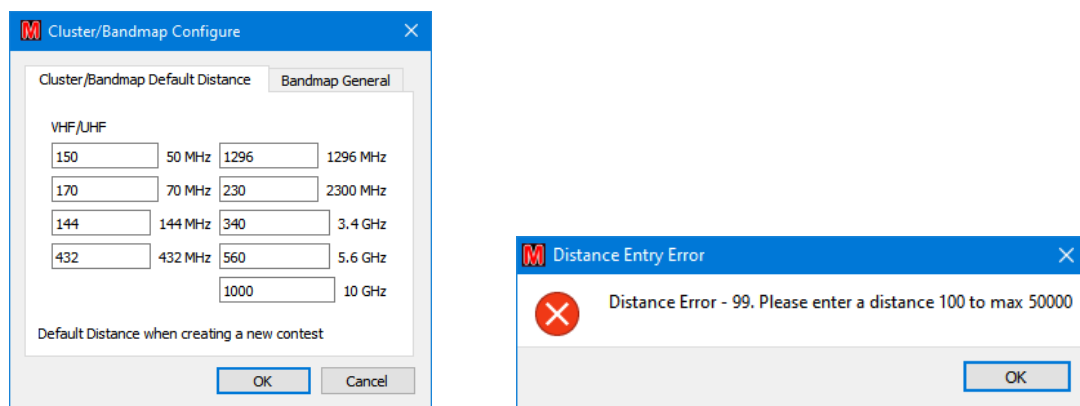

Figure 119 – Default distances for filters
The defaults for the maximum distance filter are established using “**Cluster/Bandmap Filter Configuration**” under the Tools menu as shown in Figure 119 (1)¹²⁶. The distance must be in the range 100 to 50000 (!) otherwise an error message is produced Figure 119 (2).